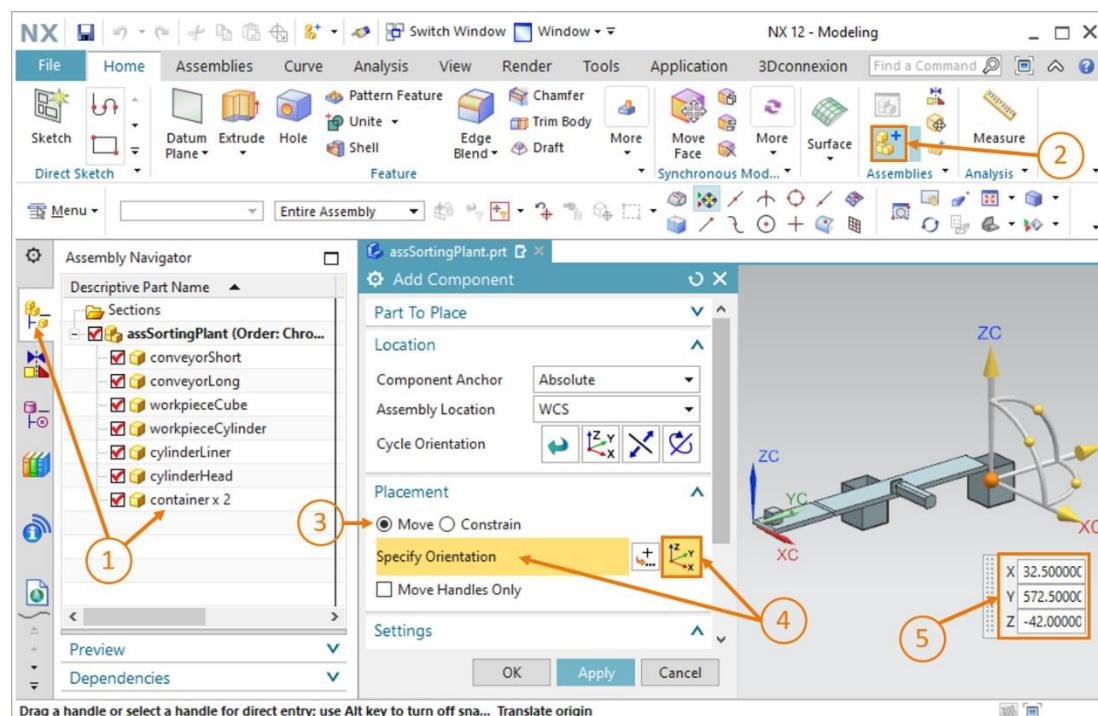

Figure 65: Copying and positioning the second "container" model in the assembly
- In the Assembly Navigator, select your inserted "container" module in your "assSortingPlant" assembly (see Figure 65, step 1). Then, click on the "Add Component" button again (see Figure 65, step 2). In this case, the "Part To Place" has already been automatically selected.
- Now, follow the usual procedure in the "Location" and "Placement" submenus (see Figure 65, steps 3-5) but replace the position coordinates as follows: